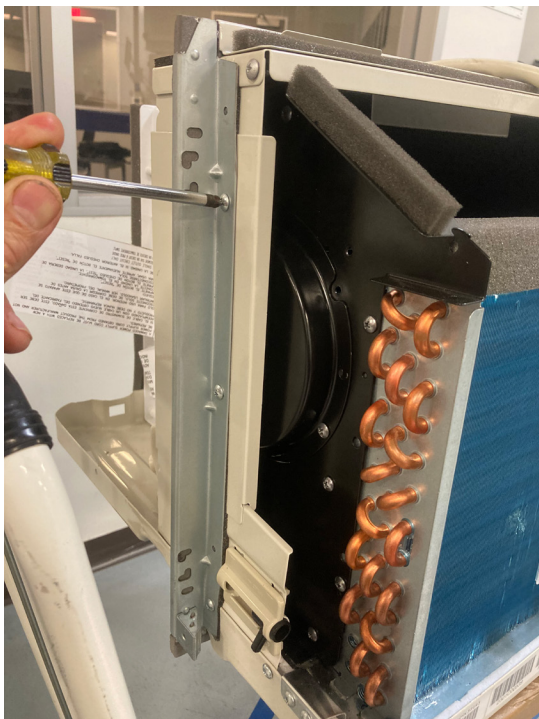

Figure 514
4. Remove outer support (see Figure 514.)